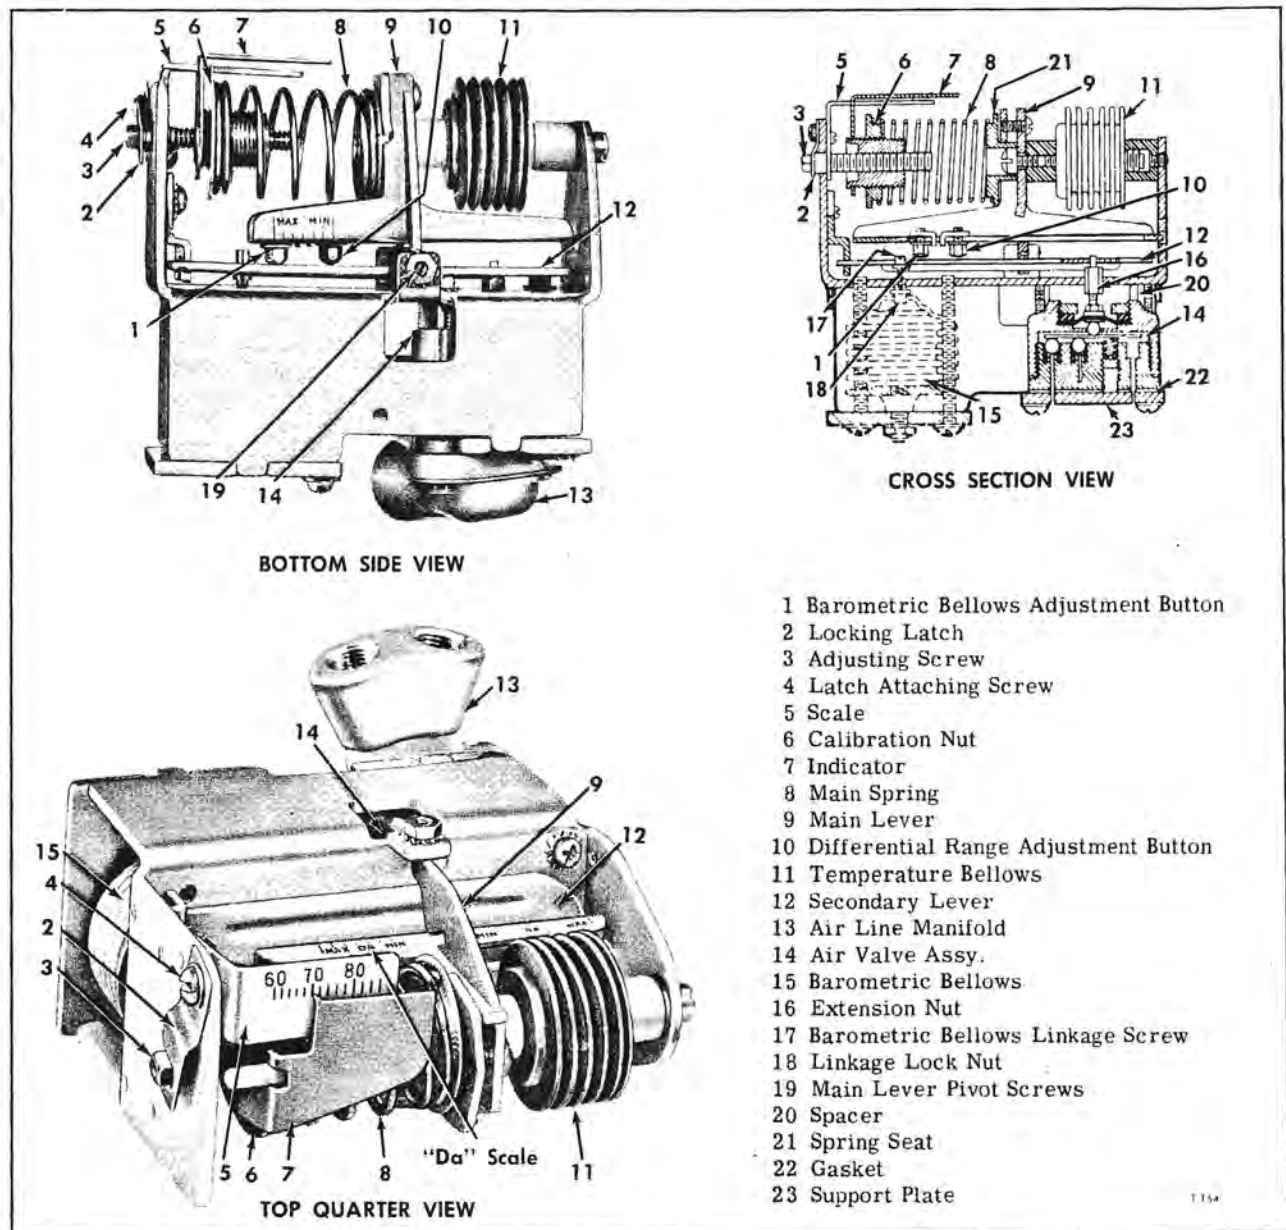
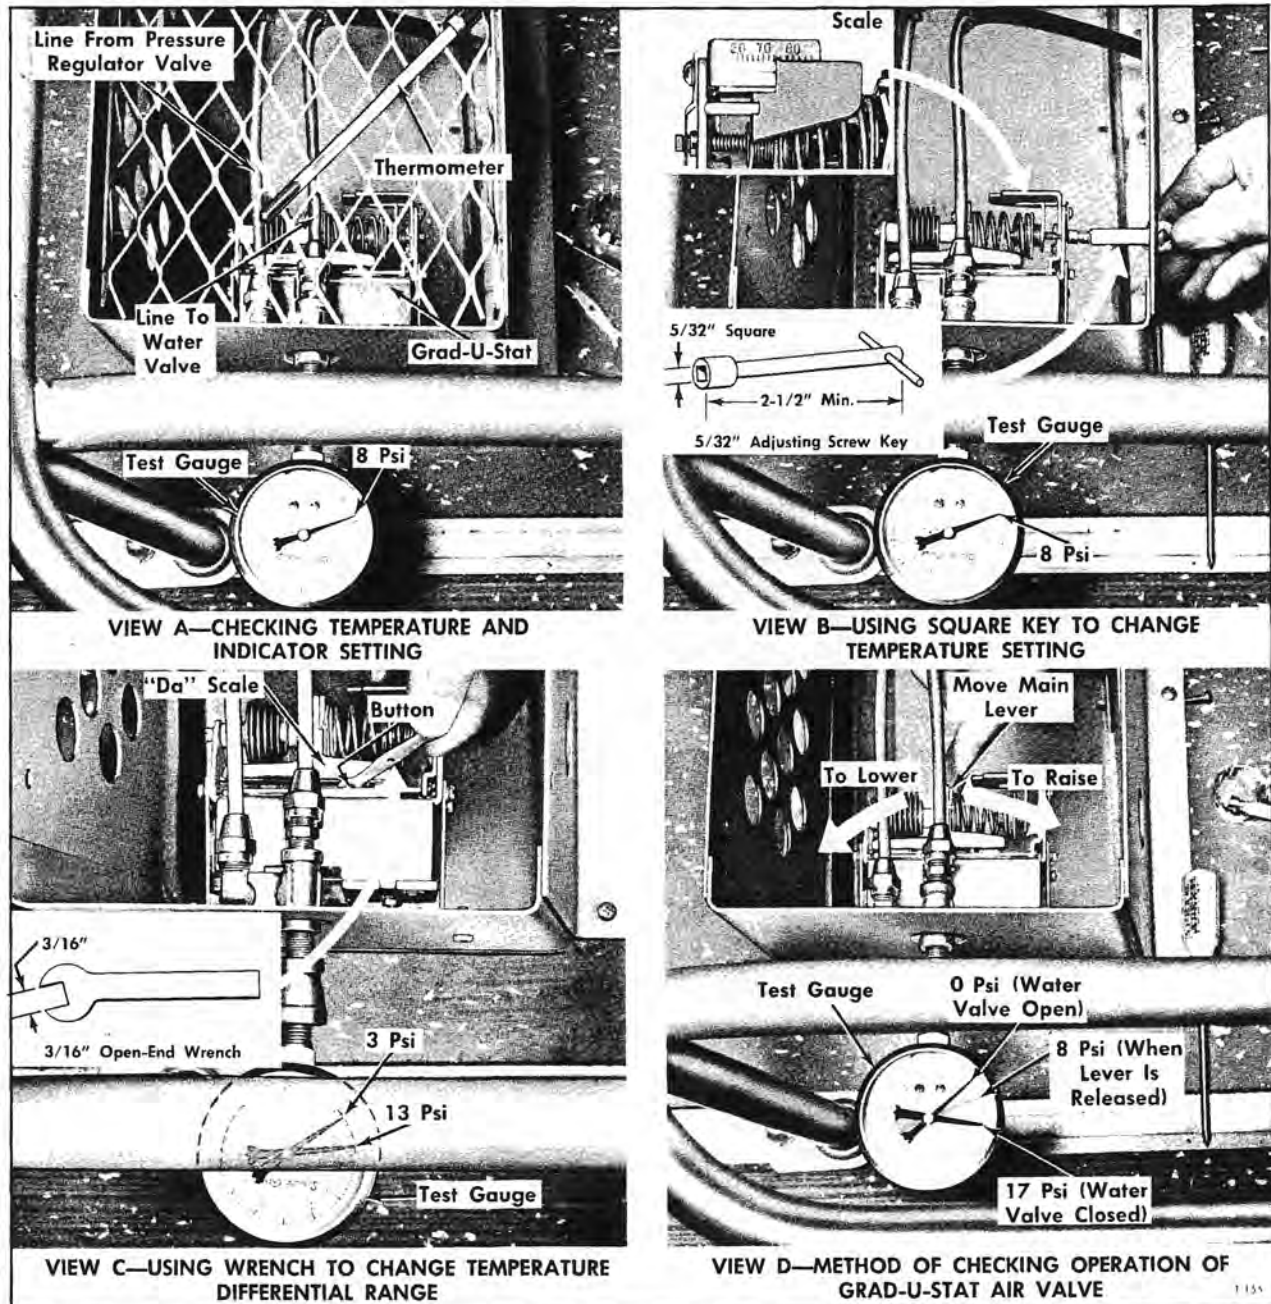

Figure 15—Heating System Grad-U-Stat Assembly
Figure 16—Grad-U-Stat Adjustment Views and Service Tools
Grad-U-Stat (fig. 15), which is a thermostatically operated air control valve, is installed in recirculated air inlet located under seat, midway on right side of coach (View A, fig. 16) on transit models and under the raised floor on suburban models. Two air lines connect to the unit. Main air line, connected to front port, is the main feed line from air pressure regulating valve, which limits the air pressure to 17 pounds; rear line carries air pressure from the unit to the water modulation valve.
The differential range adjustment button (10, fig. 15) on the main lever, is set at the factory to provide a 6°F. differential between fully closed and fully opened position. This setting has been found satisfactory for most operations and it is
Grad-U-Stat is also altitude compensated, providing uniform temperature control when coach is operating at various elevations. An auxiliary bellows (15, fig. 15), unaffected by temperature changes, opposes the effect of altitude changes on the temperature-sensing bellows by retarding action of the secondary lever.
3. Check the adjustment screw (3, fig. 15) for binding; if it turns hard, clean, then coat it lightly with lubricant. Reset adjustment screw after lubricating.
Key numbers in text refer to figure 15.
2. Remove plug from line elbow at Grad-U-Stat, then install air pressure test gauge (fig. 16).
4. With engine warmed up to normal operating temperature, the blowers operating, doors and windows closed, and with defroster blower off check the air temperature at the bellows with an accurate thermometer (View A, fig. 16).
5. Through opening in side of air inlet riser, on transit models (remove screen from seat riser in aisle on suburban models), loosen locking latch screw (4), disengage latch (2), from adjusting
screw (3), then turn the adjusting screw to set the indicator at the temperature shown on the thermometer (View B, fig. 16).
6. Observe pressure reading on air pressure test gauge. If reading is 8 pounds, no adjustment is required. If pressure is above 8 pounds, turn the calibration nut (6) and main spring (8) to short-
7. After correct adjustment is obtained, turn adjusting screw (3) to set the indicator at desired operating temperature (75 F. is factory setting), place locking latch (2) over adjusting screw, and tighten latch screw (4).
8. To check the differential range, find the temperature setting on scale (5) at which the pressure in line to water valve is 3 psi and the temperature setting at which line pressure is 13 psi. The number of degrees the setting must be changed to raise line pressure from 3 to 13 psi is the approximate differential range. For example: At 3 psi, the temperature indicator may point to 75°F. and at 13 psi it may point to 71°F. If this were the case, the differential range would be 4 degrees.
a. Using a small open-end wrench, loosen the differential range button (10) as shown in View C, figure 16 between the "MAX." and "MIN." positions. Move the button to the desired position on its scale, and retighten range button. NOTE: To perform this operation on transit models, remove the screen from air inlet riser.
b. Make sure differential range button is between the "MAX." and "MIN." markings on side of main lever (9). Maximum range is 10 degrees, minimum range is 3 degrees.
9. To check the valve unit and levers, move the free end of the main lever (9) first to one stop and then to the other as shown in View D, figure 16, releasing it each time and watching the air pressure gauge. When the lever is moved against its stop the gauge should show a decisive and immediate air change from 8 pounds to either 0 pounds or 17 pounds, depending on which direction the lever was moved. If the above tests indicate that the Grad-U-Stat is faulty, proceed to remove the unit from coach for disassembly as the air valve assembly (14) is most likely the cause of trouble.
a. Mark the location of differential range button (10) so that it can be returned to original location later, and loosen and move the button to "MAX." on the direct-acting "DA" side of the main lever (9). Move the main lever (9) from one stop to the
### REMOVAL OF GRAD-U-STAT (Fig. 16)
NOTE: Key numbers in text refer to figure 15.
### INSTALLATION OF GRAD-U-STAT (Fig. 16)